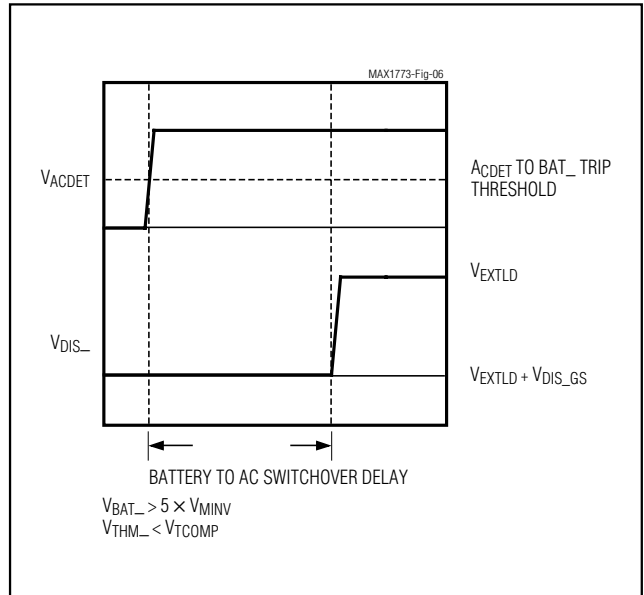

Figure 6. Battery to AC Switchover Delay
**Note 10:** Battery to AC Switchover Delay begins when VACDET rises above its threshold and ends when VDIS\_ of the battery being switched from has begun to rise (Figure 6).